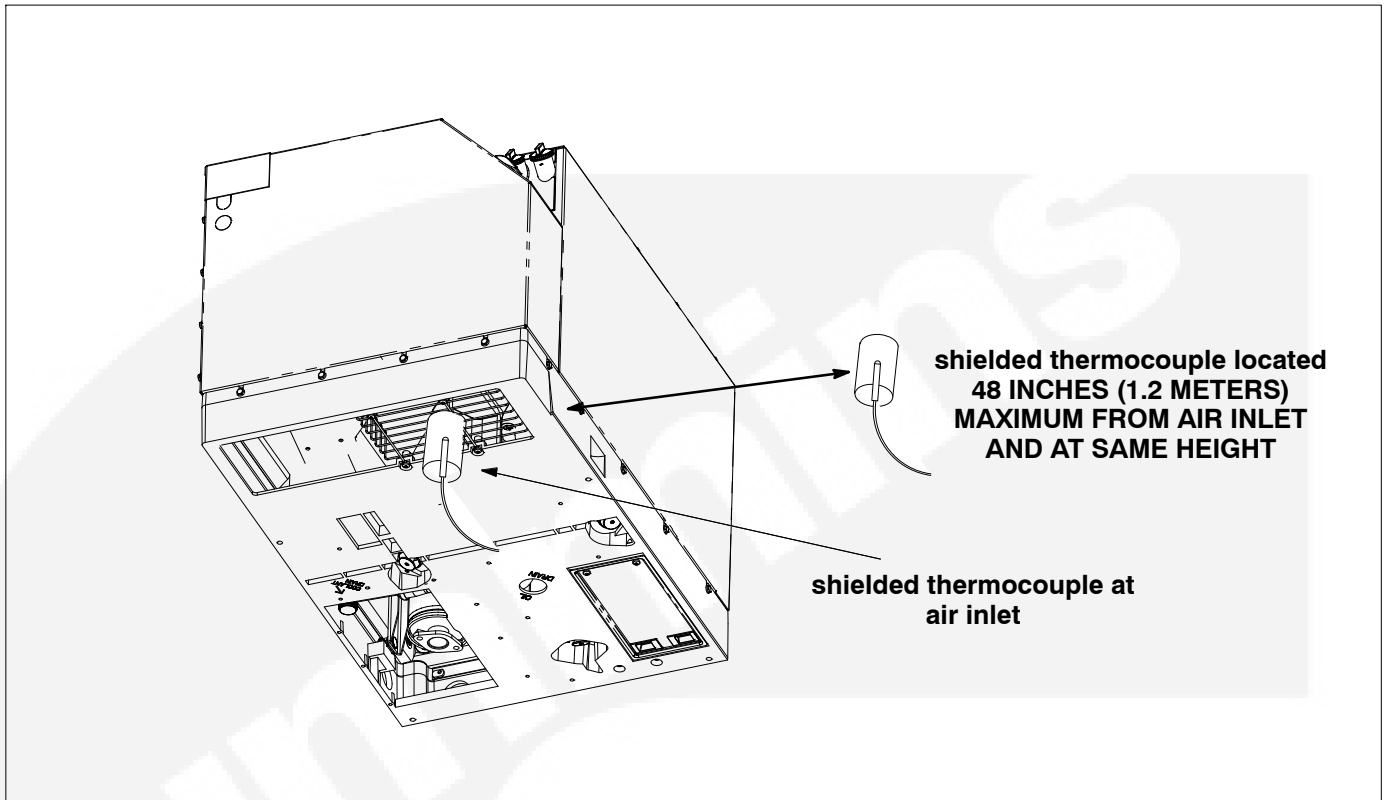

FIGURE 19. THERMOCOUPLE LOCATIONS
5. Measure genset inlet air temperature with one or two thermocouples tied about 1 inch away from the face of the radiator in the intake air opening (Figure 19). Make sure the thermocouples don't touch the radiator.